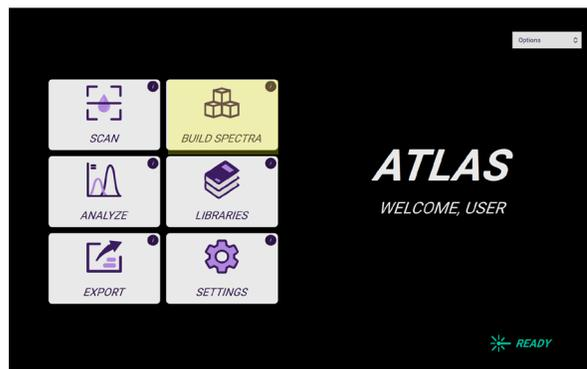

Figure 12. Build spectra from the dashboard
1. On the Dashboard or navigation bar, select “Build Spectra” to begin (Fig. 12).